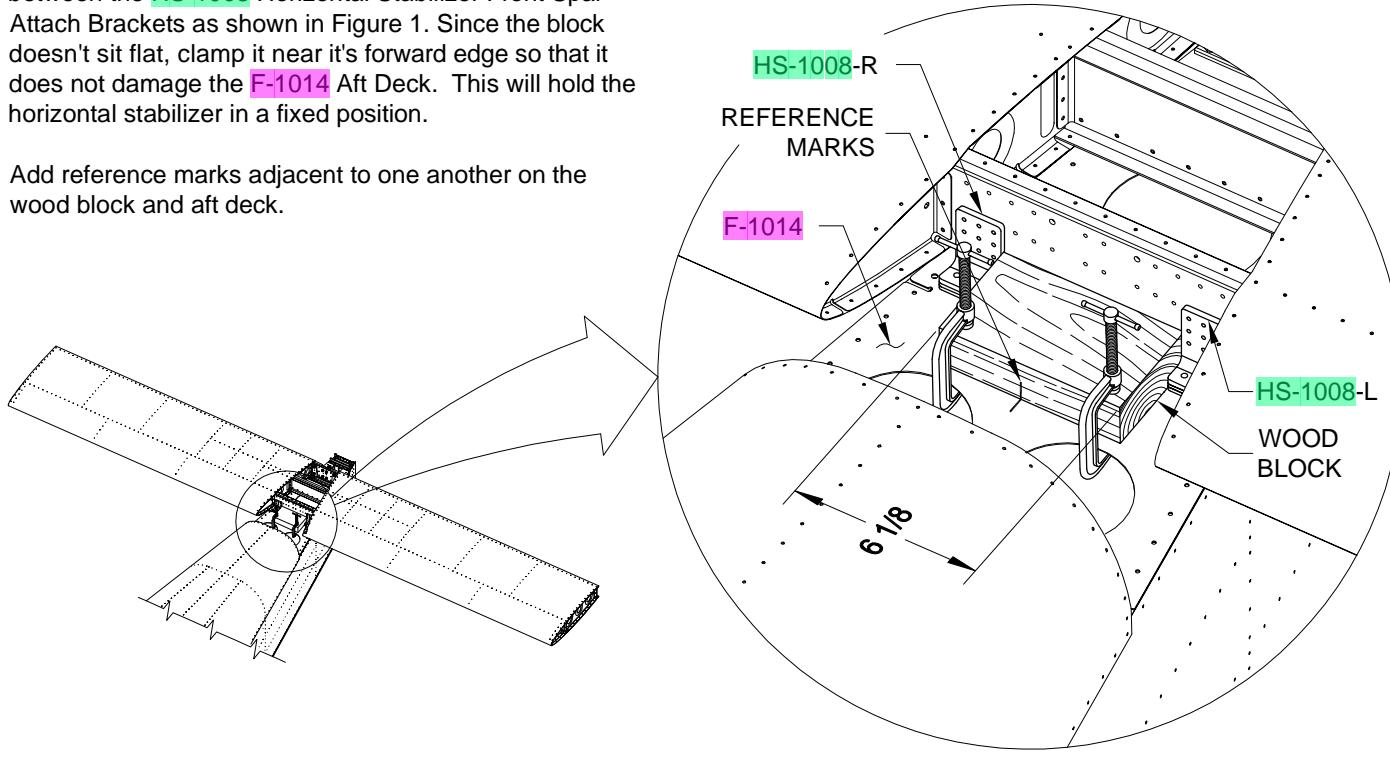

FIGURE 1: CLAMP BLOCK TO AFT DECK
Step 1: Cut a 2x4 wood block to length so it nests snug between the HS-1008 Horizontal Stabilizer Front Spar. Attach Brackets as shown in Figure 1. Since the block doesn't sit flat, clamp it near its forward edge so that it does not damage the F-1014 Aft Deck. This will hold the horizontal stabilizer in a fixed position.